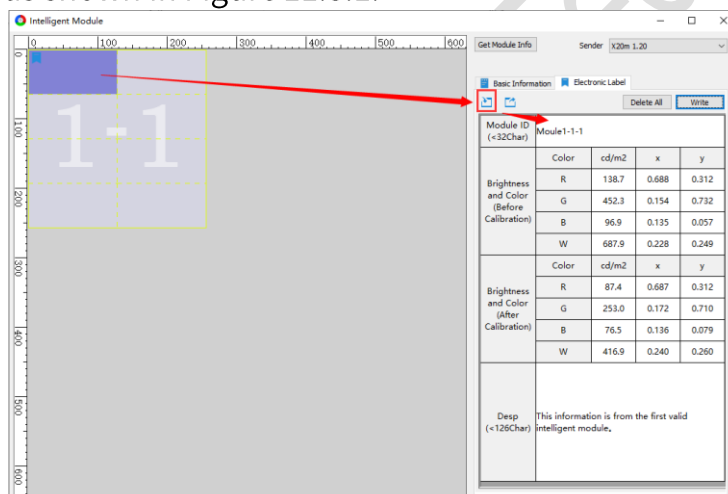

Fig 11.3.1 Import electronic labels
Step 1: To import electronic labels for a module, select the module first. Then, click the **Import** icon above the table or enter the label information directly in the table, as shown in Figure 11.3.1.